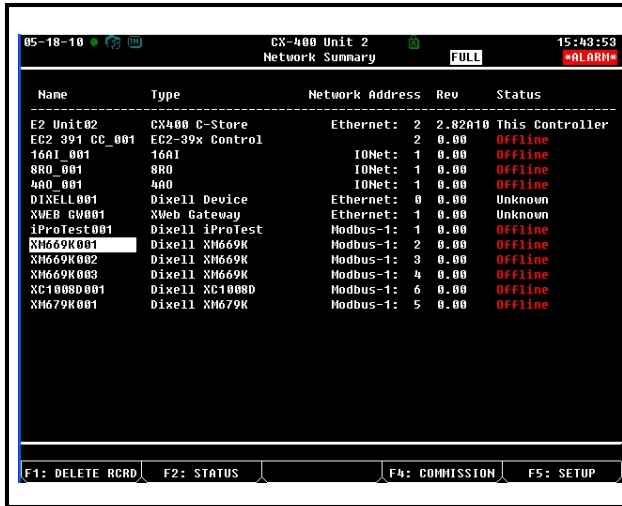

Figure 16-8 - Network Summary Screen
- When finished, press to return to the *Network Setup* menu, then press **1** - **Network Summary** (Figure 16-8). Locate the devices you set up, and look at each device's status in the **Status** field. You will see one of the following messages: